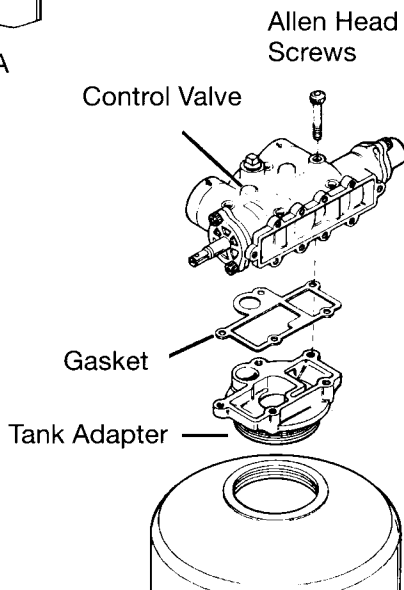

Figure 3B
7. Place the gasket on the tank adapter and mount the valve. Install the 5 allen head screws and tighten evenly. Reference Figure 3B.